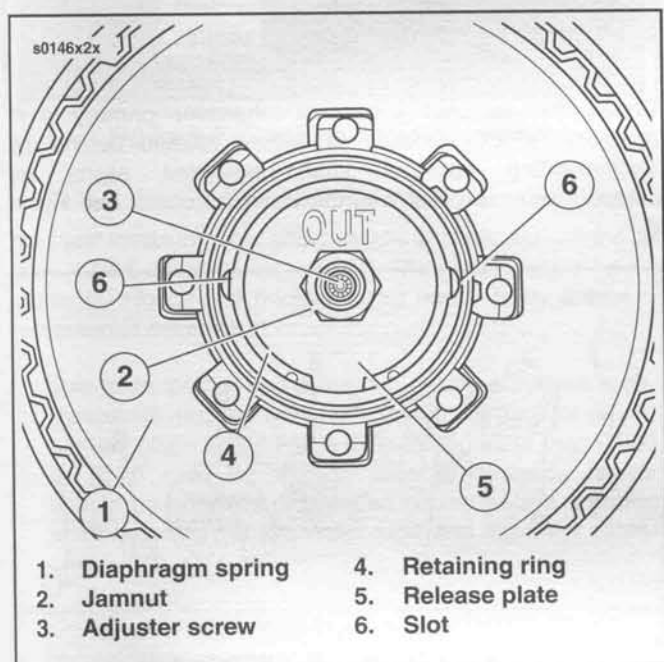

Figure 6-4. Clutch (1997 Model Shown)
3. See Figure 6-4. Loosen jamnut (2) and remove adjuster screw (3) and jamnut.
2. See Figure 6-4. Loosen jamnut (2) and remove adjuster screw (3) and jamnut.